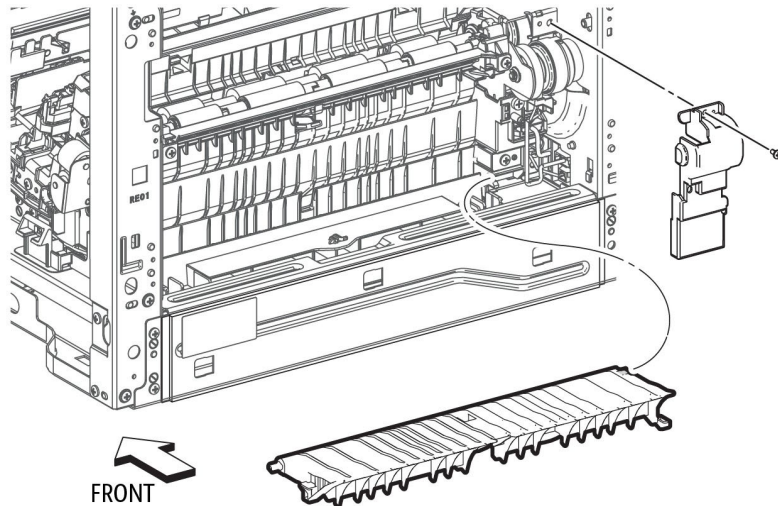

Figure 1 Remove the Rear Duplex Cover and Lower Duplex Chute
2. Refer to Figure 1 to remove the one screw (silver, M3x6mm) attaching the Rear Duplex Cover and remove the cover.
3. Refer to Figure 1 to rotate the Lower Duplex Chute 90 degrees toward the rear, and remove the Lower Duplex Chute.